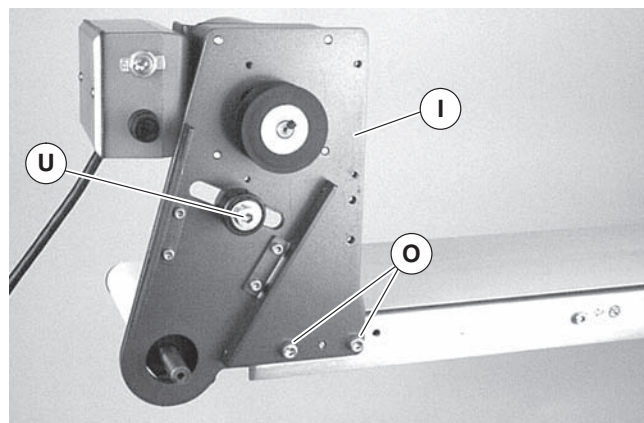
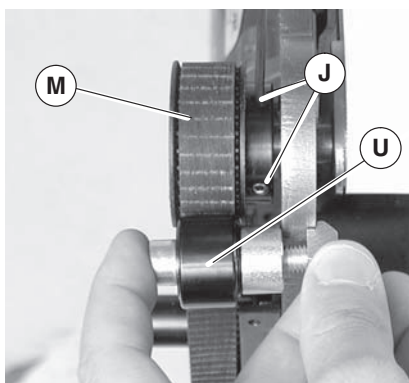

Figure 9
Figure 11
4. Attach mount assembly (Figure 9, item I) with two screws (O). Tighten screws to 80 in-lb (9 Nm).
6. Wrap timing belt (M) around driven pulley (J) and drive pulley (R). Install driven pulley (J) onto conveyor shaft.
7. Remove cam bearing and spacer (Figure 9, item U). Place the cam bearing and spacer (Figure 11, item U) next to the driven pulley (M). Ensure the flanges of the driven pulley are aligned with the cam bearing. Tighten set screws on driven pulley (J). This will allow for proper belt alignment while conveyor is in use. Install cam bearing and spacer (U).